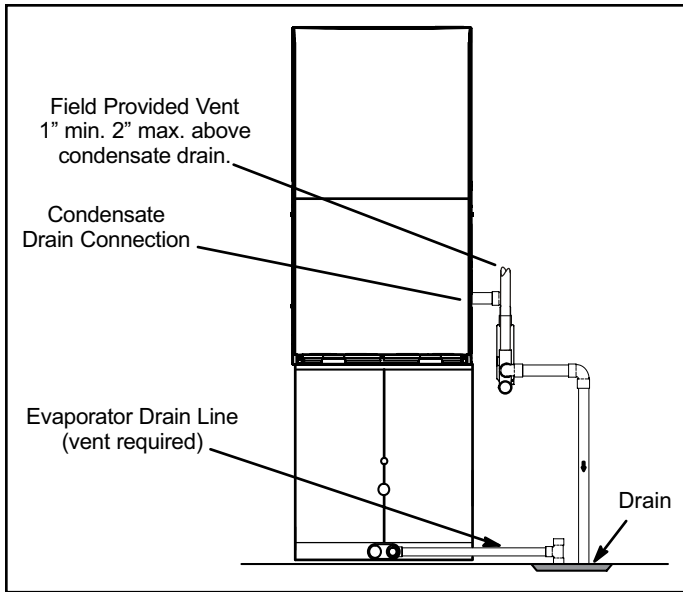
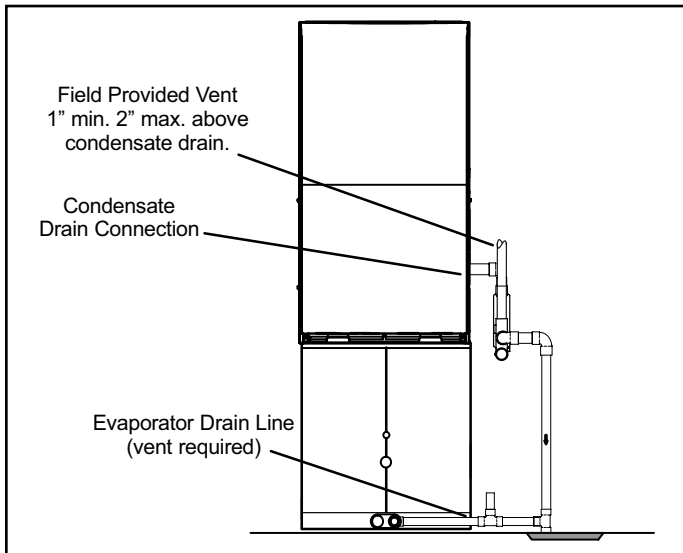

Figure 45. Evaporator Coil Using a Separate Drain
Figure 46. Evaporator Coil Using a Common Drain
5. Figure 45 shows the furnace and evaporator coil using a separate drain. If necessary, the condensate line from the furnace and evaporator coil can drain together. See Figure 46. The field provided vent must be a minimum 1" to a maximum 2" length above the condensate drain outlet connection.